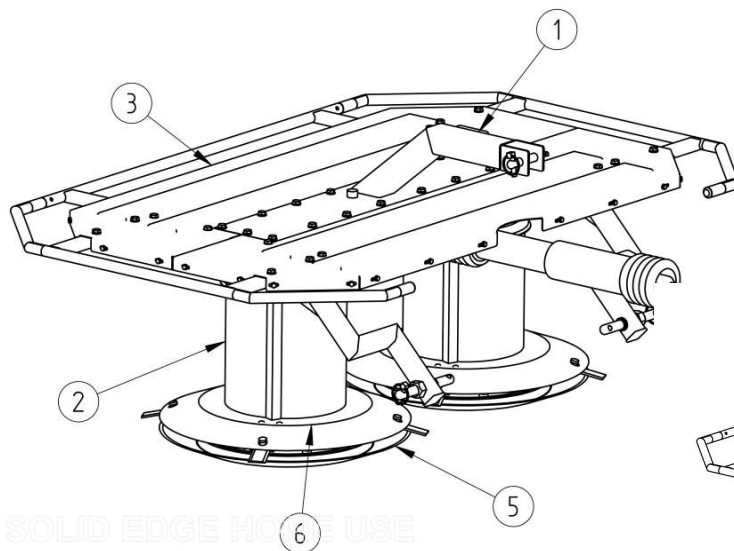
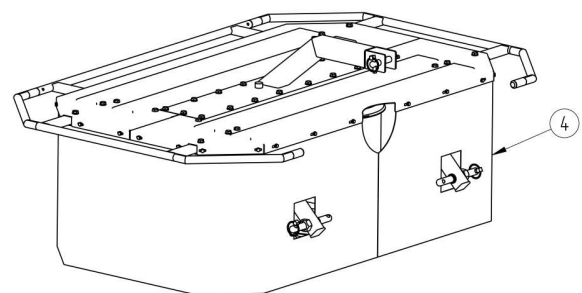
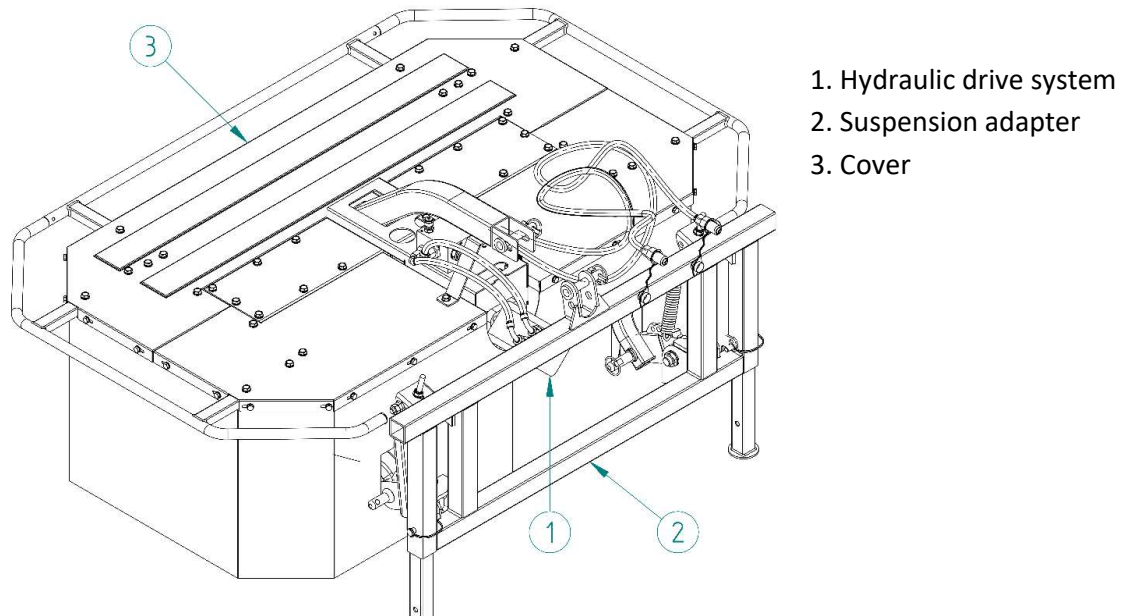

Fig 2 General build of mechanically driven mower(pt.1 of 2)
Fig 3 General build of hydraulically driven mower(pt.2 of 2)
Fig 4 Distinguishing elements of hydraulic drive mower
Main frame (Fig .2 pos. 1) with the suspension adapter (fig.4 pos. 2) is used to link the mower to the tractor. Cutting unit contains two working drums and operating saucers (fig.2 pos. 2 & 6) with rotating blades at the bottom. Operating saucers are supported by the bottom (sliding) saucers when positioned in the working position (fig.2 pos. 5), which are responsible for ground contour following.
Covers (fig.3 i 4 pos.3) and protective skirt (fig.2 pos. 4) secure the operator and the bystanders from hard elements which can be thrown with high speed by the Working drums and operating saucers (fig.2 pos. 2 & 6).